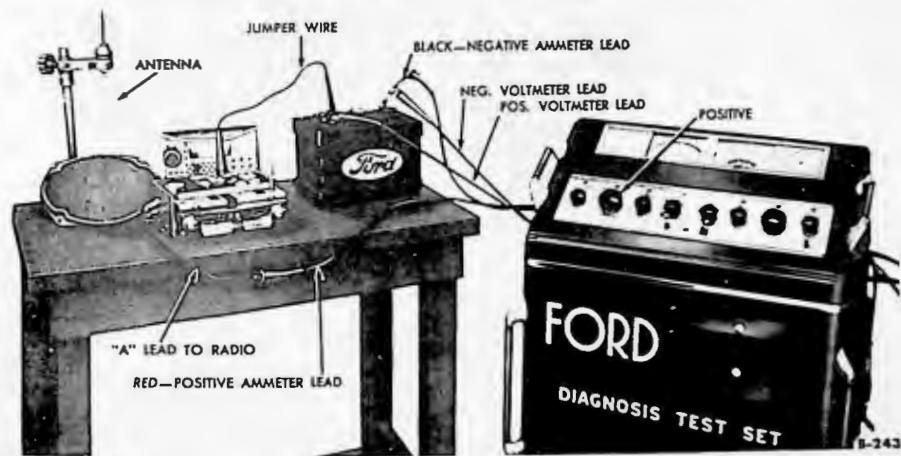

Fig. 1—Bench Test Connection, Using Diagnosis Test Set
(1) **FUSE BURNED OUT.** Remove the radio receiver from the car. Remove the top cover from the radio receiver. Replace the vibrator (see fig. 2). With the radio receiver on a test bench, hook up the battery leads and test set as shown in fig. 1. Turn the radio receiver on, and observe the ammeter of the test set. The normal current is 6.0 to 6.5 amperes with the voltmeter reading 6.0 volts. If there is no reception, feel the vibrator and if there is no evidence
(2) **FUSE O.K.** Turn the radio receiver on, and feel the bottom of the radio receiver for vibration. If vibration can be felt and there is no reception, test for shorted or open antenna. (See subject 18805). Repair or replace the antenna if necessary. If there is still no reception, remove the radio receiver and remove the top cover. With the radio receiver on a test bench, hook up the battery leads and test set as shown in fig. 1. Turn the volume control fully on, and tune to the approximate point of a local station. Observe the ammeter, and follow whichever of the following conditions that apply.